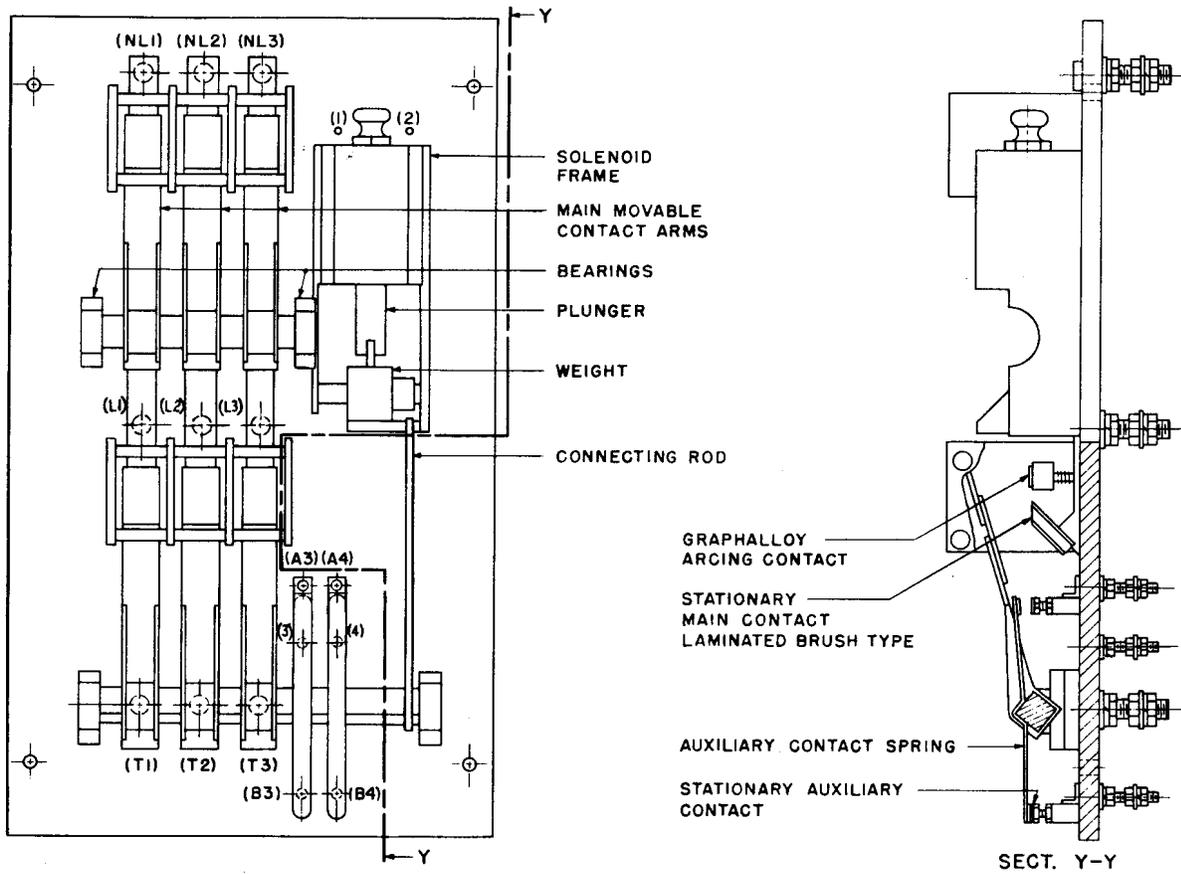

Fig. 1 - Contactor With Laminated Brush-Type Main Contacts
- (1) Remove dirt or other obstructions from graphalloy arcing contacts of the type shown in Fig. 1 or replace springs as required.